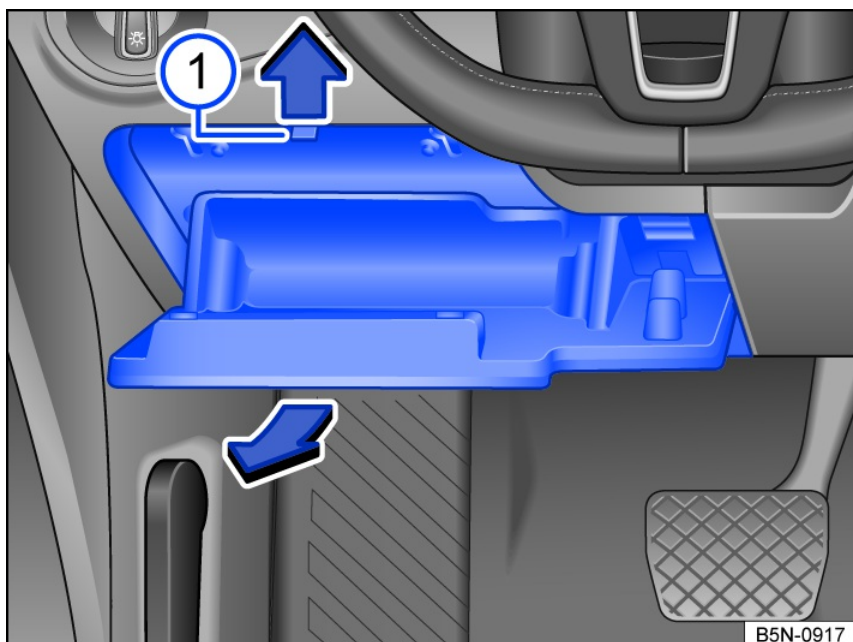

Fig. 180 To the left of the steering wheel: Fuse box cover in the instrument panel (left-hand drive vehicles).
- Open the storage compartment on the driver side and empty it, if necessary fig. 180.
- Push the limit stop up, open the driver side storage compartment further in the direction of the arrow, and pull it out fig. 180 ①.
- Close the driver side storage compartment a little way, pushing up the limit stop if necessary fig. 180 ①.